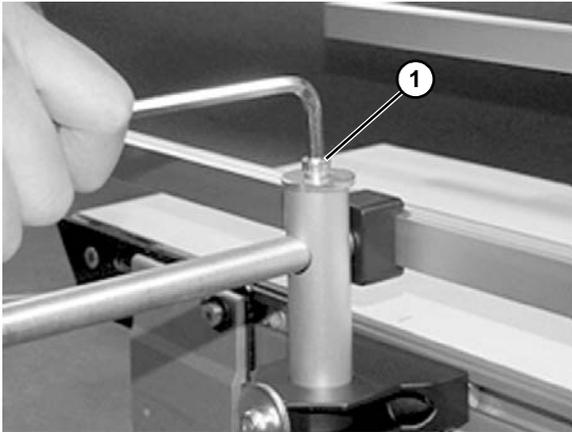

Figure 38
6. Adjust rail width with top screw (**Figure 38, item 1**).